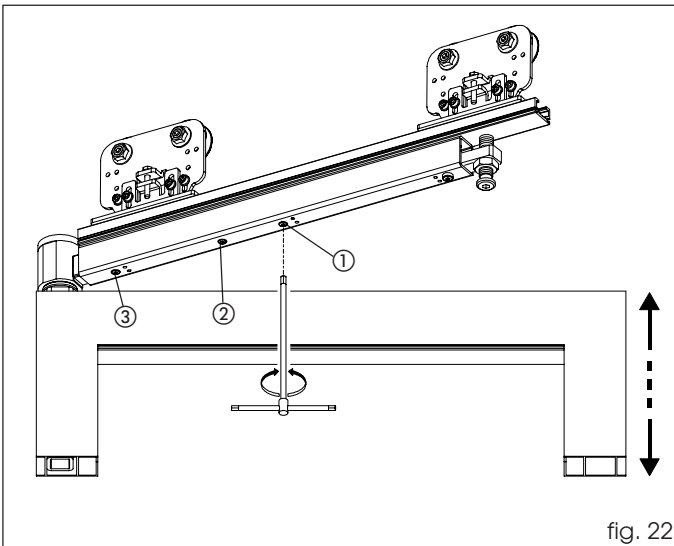

fig. 22
Adjust height (fig. 22) with dowel ①. Tighten the locking dowels ② and ③.